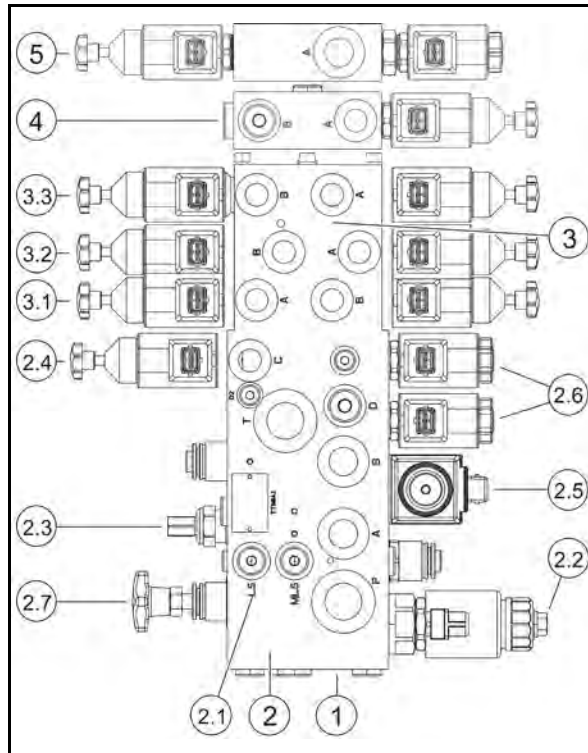

Fig. 33
1. Screw the load-sensing control line (2) into the connecting aperture (Fig. 33/2.1) of the electro-hydraulic control block.